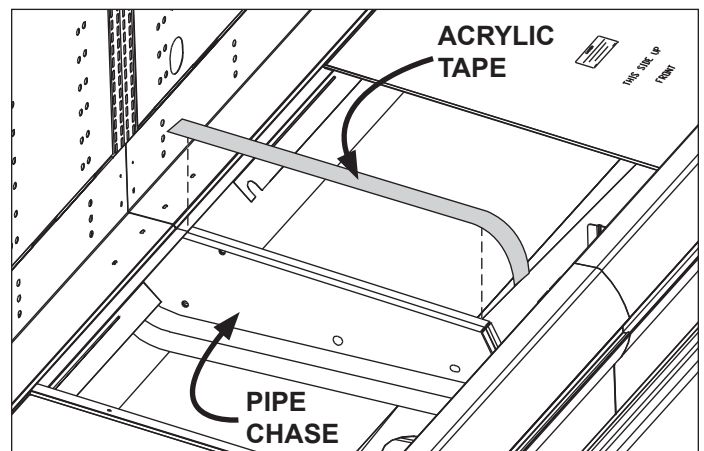

Fig. 5 Sealing the pipe chase
3. Seal the interior case-to-case joints with caulk (supplied), then apply acrylic tape (supplied) over the pipe-chase seam (Fig. 5). The tape acts as a watershed preventing water from settling in the case joint.